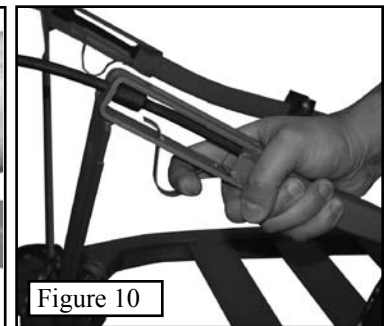

Figure 10
Step 1. Attach the base platform to the tree first. To do this, pull down and hold the QuickDraw cable spring as shown in **Figure 10**. This will release the locking tab from the cable, allowing you to remove it from the cable bracket.